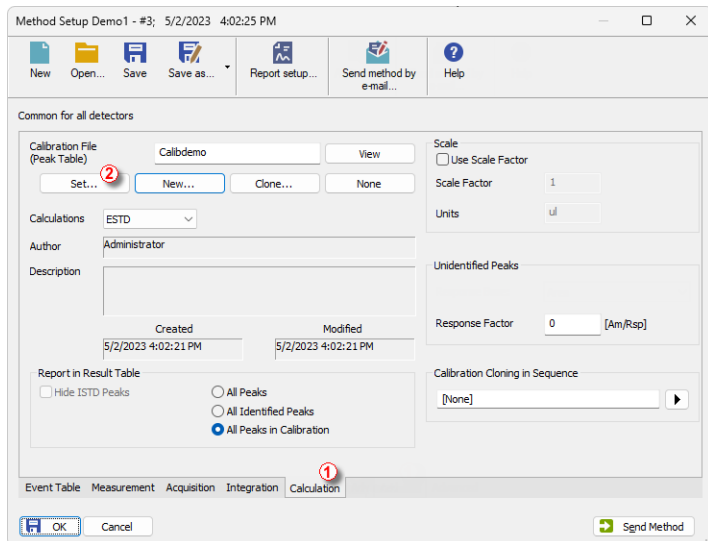

Fig. 13: Method Setup - the Calculation tab
- Return to the *Clarity Lite* window and use the *Method - Calculation...* command to open the *Method Setup* dialog directly on the *Calculation* tab  as shown on **Fig. 13** on pg. 19. Alternatively, open the *Method Setup* by clicking on the icon  and then move to the *Calculation* tab.